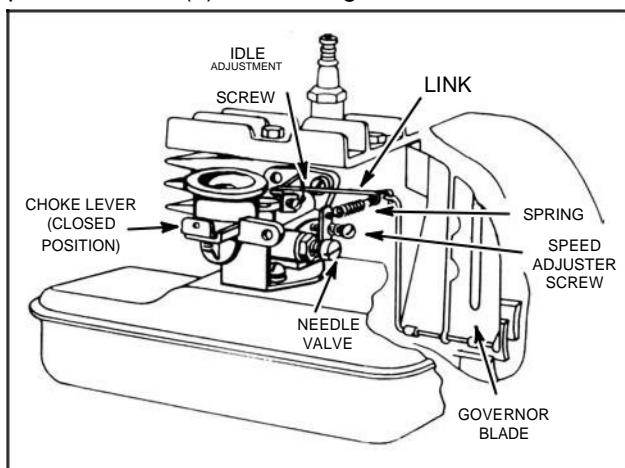

Fig. 127 - MODEL 5S, 6S, 6HS
The fuel tank is supported by the carburetor, held in place with two (2) screws, Fig. 127.
The carburetor throttle can be removed by loosening the idle speed adjusting screw. This permits the throttle to be turned far enough to clear the retaining lug on the carburetor body, Fig. 127.